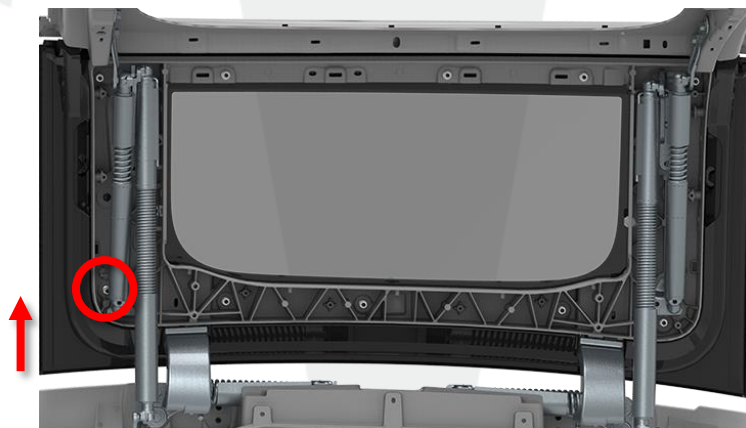

Figure 7
16. Lift the lower front corner of the upper glass while torquing the lower forward nut (torque 6 Nm) (Figure 7).